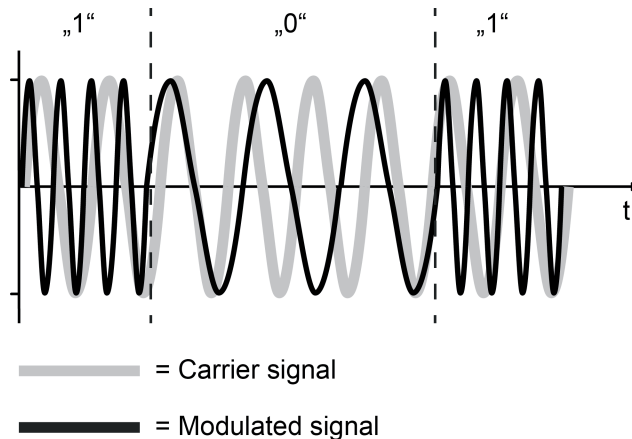

Figure 25: Frequency key shifting as a modulation method (FSK = Frequency Shift Keying)
An electromagnetic wave of a constant amplitude and frequency does not yet carry any information. To make this possible, the transmitter must change the amplitude or the frequency of the wave continuously according to an agreed method and the carrier signal must modulate the information in this manner. With KNX RF, the modulation type "Frequency key shifting" (FSK = engl. Frequency Shift Keying) is used (figure 25). Frequency key shifting is a variant of frequency modulation (FM) and suitable for the transmission of digital information. Two time-coded signals of a different frequency are transmitted, in order to inform the receiver of the